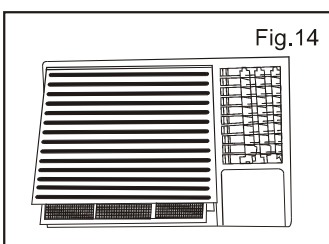

Fig.14
- 8) Reinstall the air filter.(Fig.14)